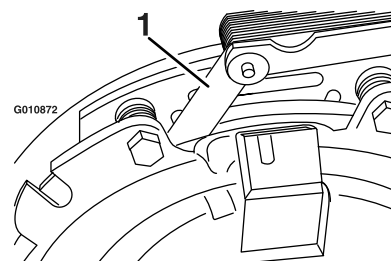
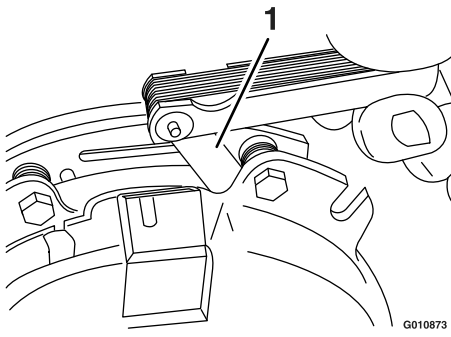

Figure 71
Figure 72
- E. Using a 0.25 mm (0.01 inch) thick feeler gauge, verify that a gap is present between the rotor and the armature face on both sides of the brake pole as shown in Figure 71 and Figure 72.